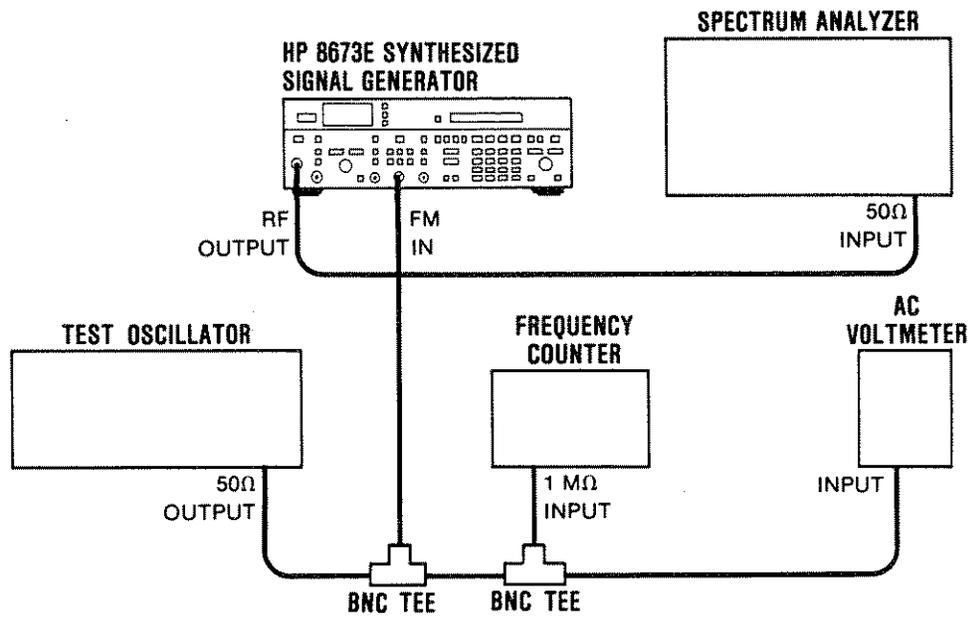

Figure 4-9. FM Frequency Response Test Setup
1. Connect the equipment as shown in Figure 4-9.